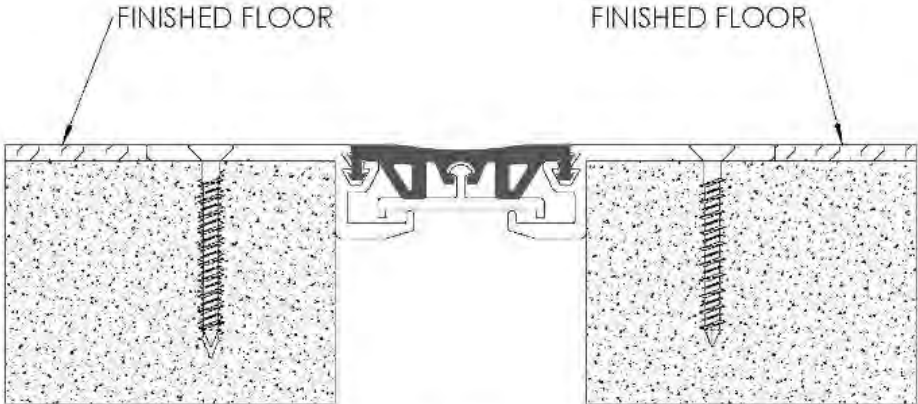

FIGURE 4
- 4. Finished tile floor (by others) may now be installed. **See Figure 4**